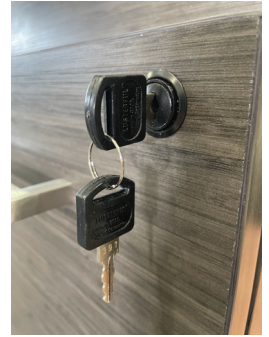

Figure 5: Under storage key and lock
Step 1: Remove hardware from top drawer through the top of the under storage and unlock the drawers (figure 6). Reference figure 5 for an image of the lock and key.